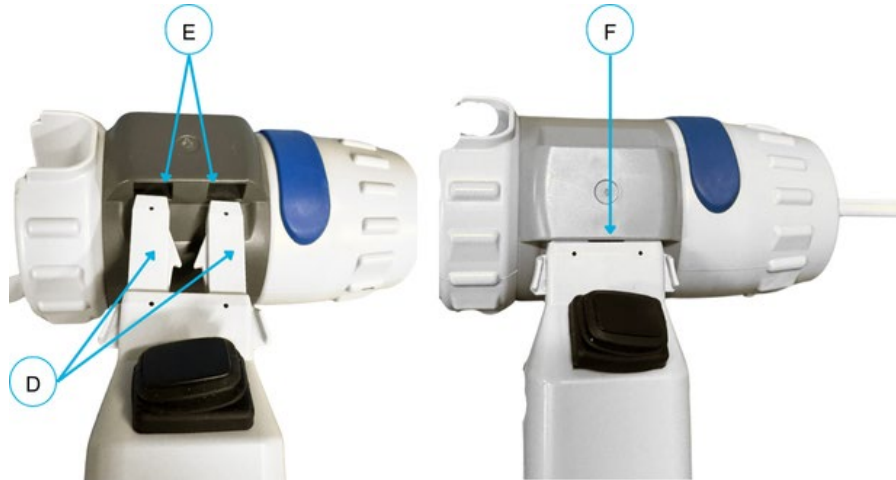

Figure 11-3: Connection of the Delivery Device to the Delivery Device Attachment
1. Align the two prongs on the Delivery Device Attachment (D) with the slots on the side of the Delivery Device (E) (Figure 11-3).